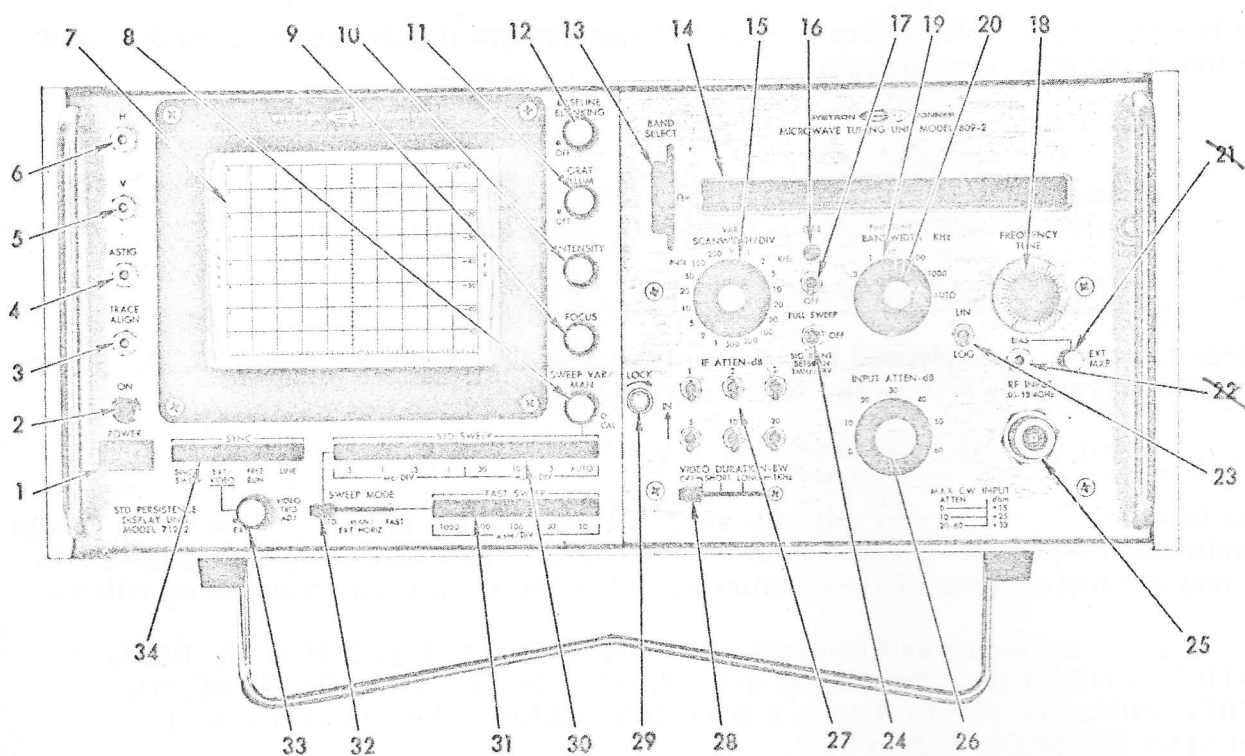

Figure 3-1. Front Panel Controls and Indicators
The front panel controls, indicators, and connectors are illustrated in figure 3-1, and are listed and described in table 3-1.
#### 3-4. DISPLAY ADJUSTMENTS (figure 3-1)
a. Set tuning unit controls: IF ATTN-dB (27, Fig. 3-1) to 30, BAND-WIDTH KHz (19) to 1.0. Set display unit controls: POWER (1) to ON, SYNC (34) to FREE RUN, STD SWEEP (30) to 3 msec/DIV, SWEEP VAR/MAN (8) to CAL, BASELINE BLANKING (12) to OFF.
b. Adjust INTENSITY control (10) for good visibility, ASTIG (4) and FOCUS (9) for sharpest possible spot.
c. Adjust TRACE ALIGN (3) to bring horizontal trace parallel with horizontal graticule lines.
d. Adjust horizontal H control (6) to center horizontal trace in the graticule.
e. Adjust vertical V control (5) to position horizontal trace on the bottom line of the graticule.